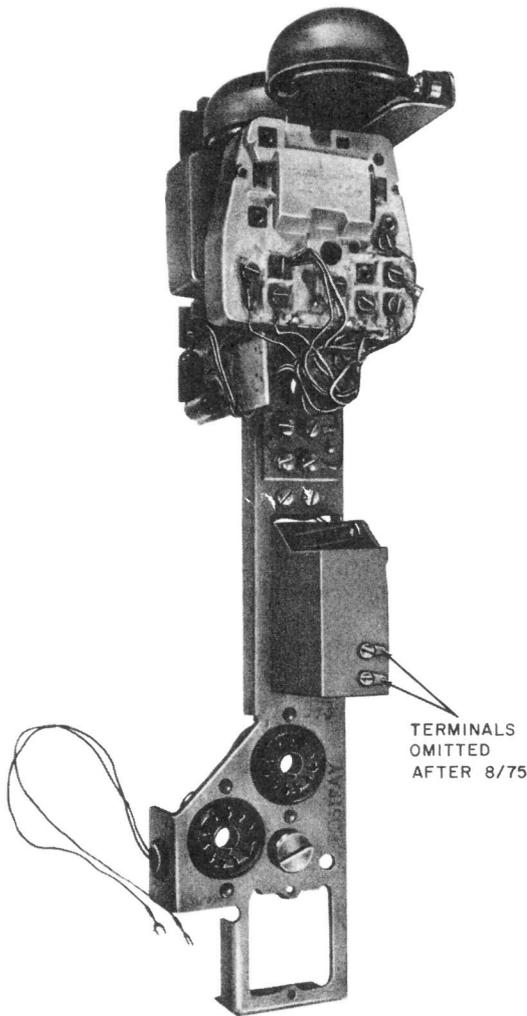

Fig. 15—30B Coin Chassis—For Use in 1E-Type Sets
3.20 The 30A (SF) coin chassis used in 1E-type sets can be replaced with a 30B (DF) coin chassis (Fig. 15).